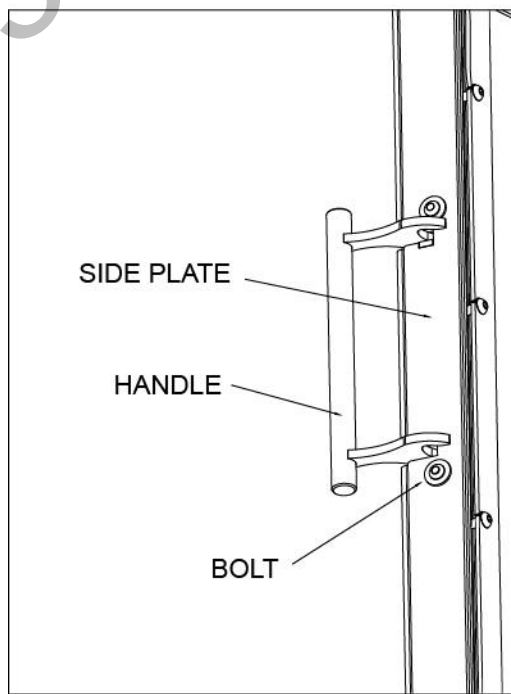

Figure 15: Handle Assembly Detail
3. If necessary, loosen the five bolts securing the door side plate containing the handle (mounting holes are slotted). Make additional adjustments by sliding the side plate in towards the stove (less pressure), or out away from the stove (more pressure) (See Fig. 15).